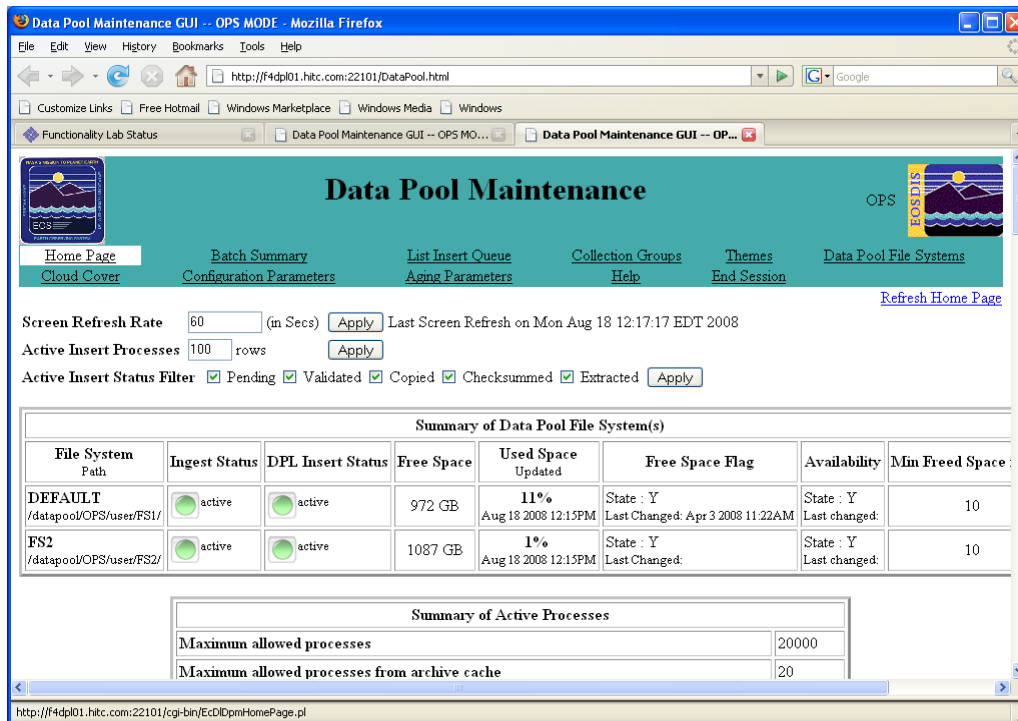

Figure 14.10-3. DPM GUI Home Page
- The **DPM GUI Home Page** is displayed (see Figure 14.10-3).